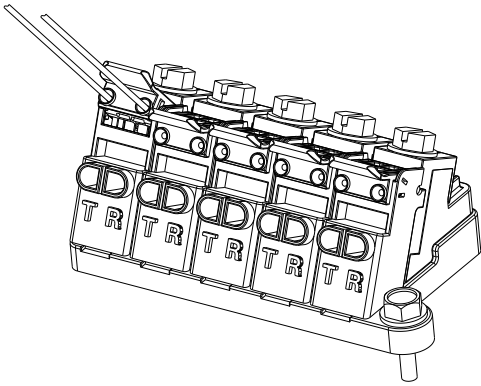

Figure 3
3. Lift rocker to full upright position, insert wires, confirm wires are fully inserted (Figure 3).